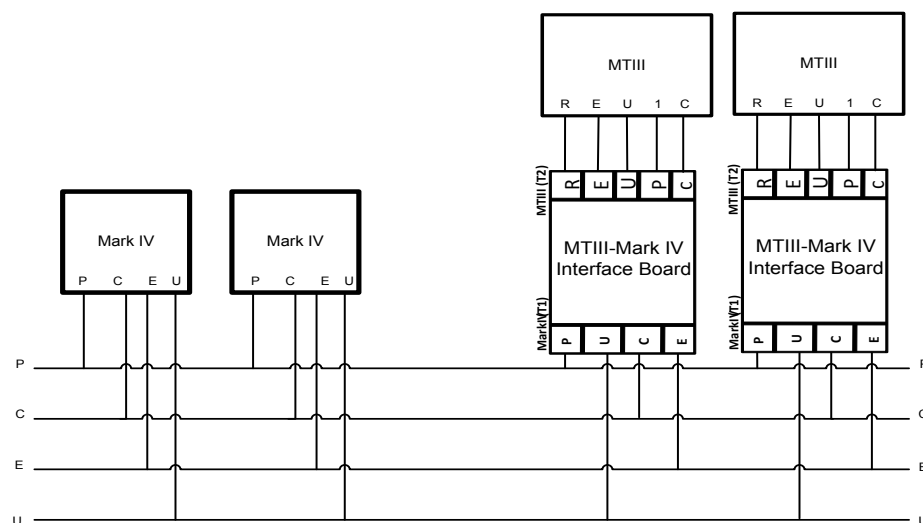

Figure 2 MTIII-Mark IV Interface Board Wiring Diagram
7. See Fig 2 below for interfacing a MTII WSHP to a Mark IV network using MTIII-Mark IV interface board